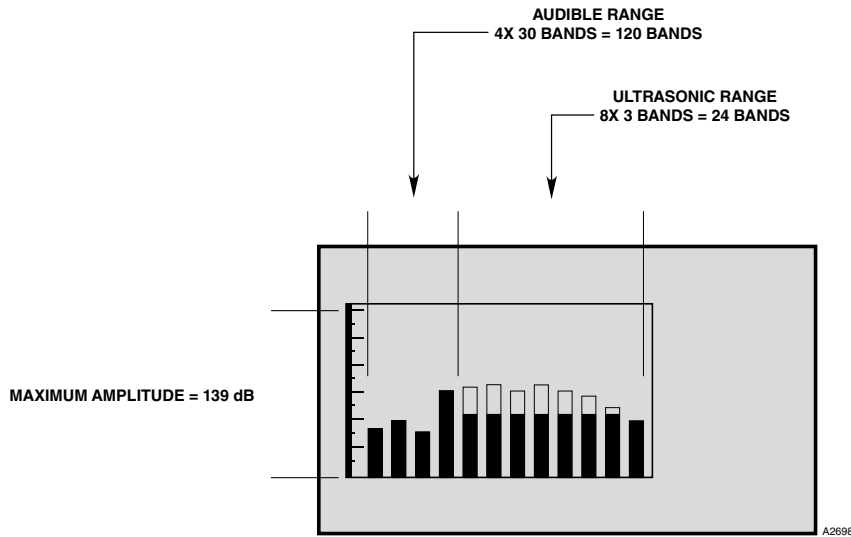

Figure 6-2—AV10 Display Uses 12 Bands to Represent the AutoSonic Acoustic Detector's 144 Bands
- The first 4 bands summarize the audible range (20 Hz - 20 kHz). Each of the first 4 bands represents an aggregate of 30 bands from the spectrum, for a total of 120 bands. See Figure 6-2.
The alarm threshold is summarized in 12 bands using the method described above. The portion of the band that exceeds the alarm threshold is inverted (displayed in white) as shown in Figure 6-2.